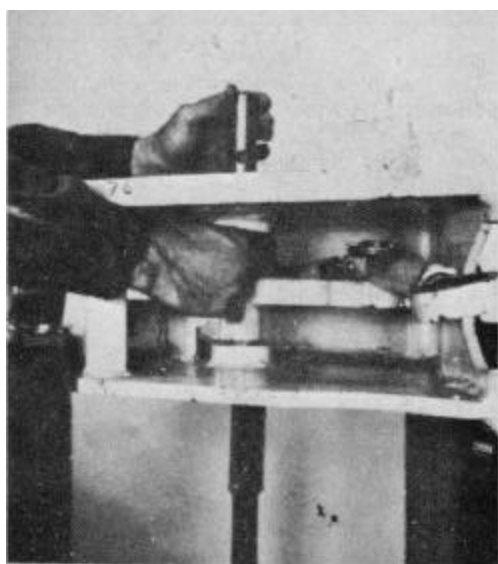

Figure 5-86
2. Remove the bell crank pin from the bell crank tube (Fig. 5-86).